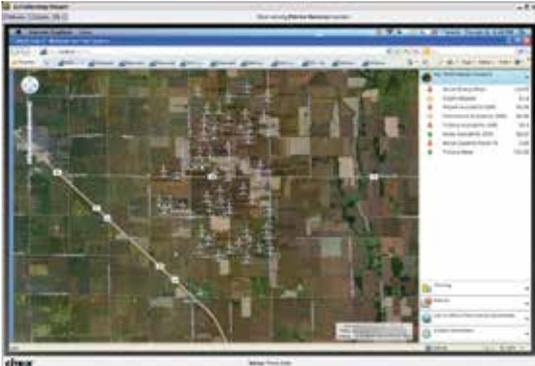

Figure 12: Screenshot—Visualization.
- **Visualization**—The software should provide tools for visualization (Figure 12), including map overlays, a dashboard object library, dashboard/report templates, and a library of pre-defined KPI's.